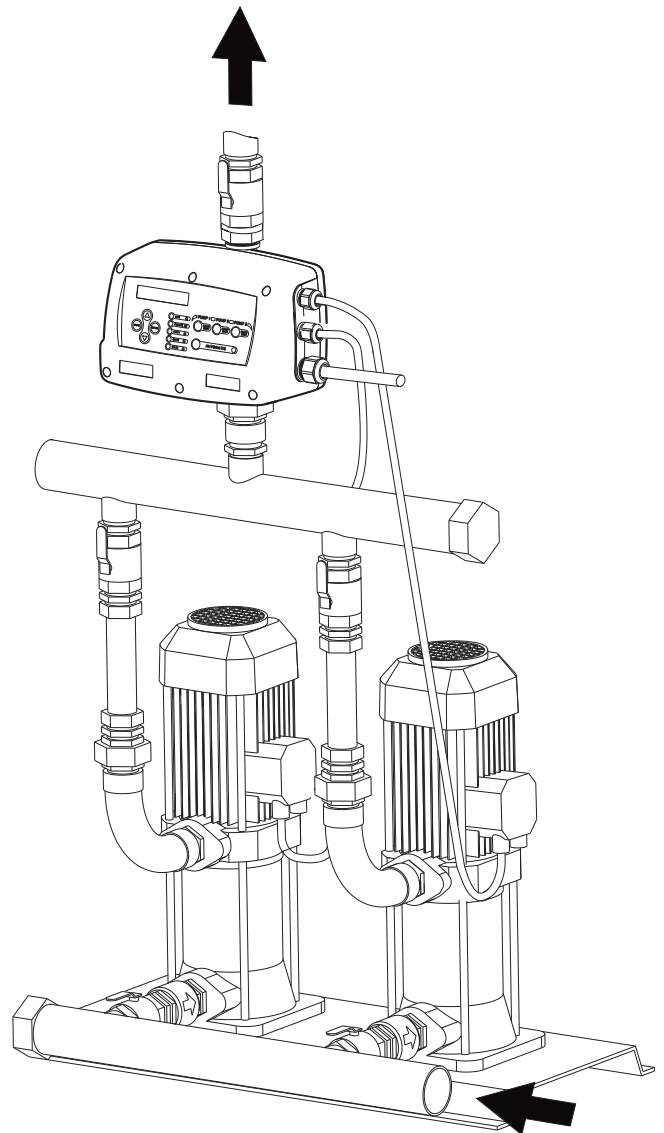

Fig. 2
The **SPEEDMATIC ALT** is a compact automatic control device (see fig.2) designed for the automation of pressure groups with 2 pumps - single or 3-phase pumps - with an electronic system managed by a software responding to the rigorous requirements of efficiency and safety of the most important builders of pumps. Both pumps are managed by the same inverter (frequency converter) acting in alternated operating sequence - never simultaneously - in each operating cycle. This system guarantees the supply in case of failure of one of the electric pumps and also increases its life utility. The type of pump, single phase or 3-phase it is easily selected by configuration.
**HYDRAULIC CONNECTIONS (Fig. 2)**
Before proceeding with hydraulic connection it is essential to install a non-return valve in every pump's inlet. The **SPEEDMATIC ALT** must be connected in vertical position (Fig.2), connecting the the inlet port ( G1 ¼" male) to a collector who communicates the discharge of both pumps and the outlet port (G 1 ¼" male) at the main network.